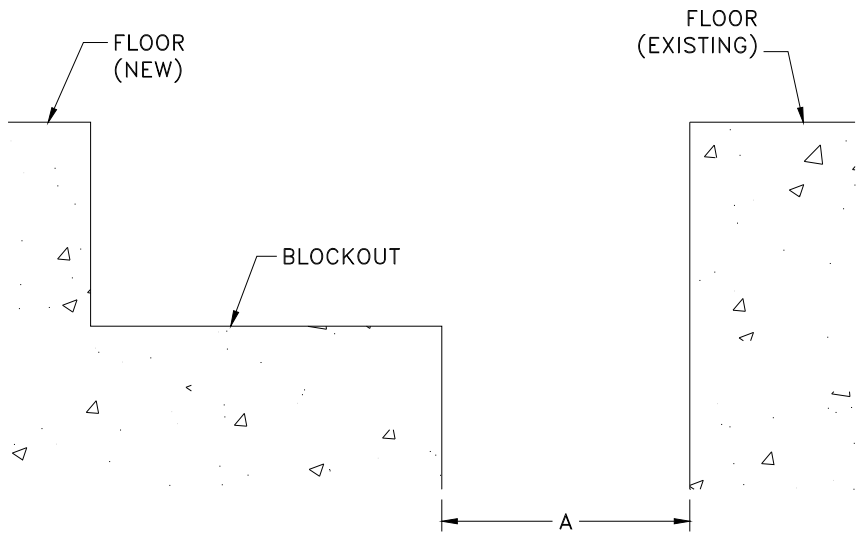

Figure 2
STEP 2. Prepare the slab for installation of the Balco, Inc. expansion joint covers (see Figure 2 and Figure 3). Ensure that the slab is flat, level, and clear of all debris. The blockout may be formed at the time of the initial concrete pour or at a later time by removing material from the slab. To ensure a good installation, use level and true blockout materials. Inspect the blockout to ensure that it is flat, level, and clear of all debris. Prepare and clean the blockout as needed.